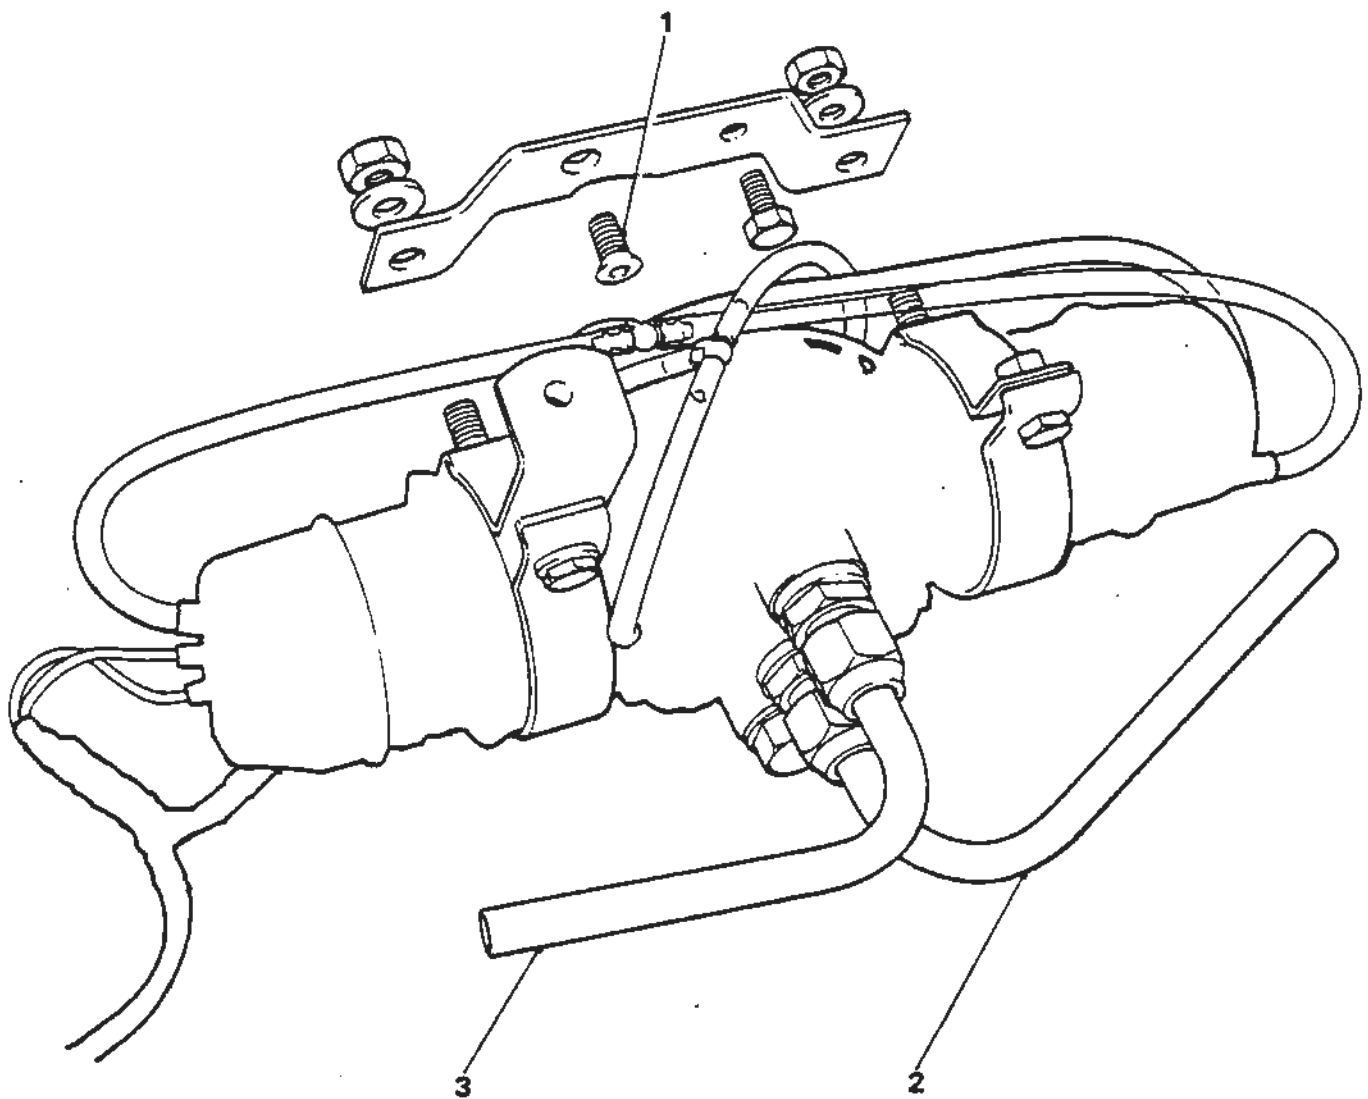

Fig. 1 Fuel pump with new mountings and breather system
- 2.3 Release the two clamp bolts from the pump mounting brackets and remove both brackets and mounting rubbers from the pump. From the kit fit the new rubbers and mounting clips as shown in Figure 1.
- 2.9 The breather system is modified. In place of the four separate breathers entering the box section there are now only two; this is achieved by the use of 'Tee' pieces from the kit (see Fig. 1).